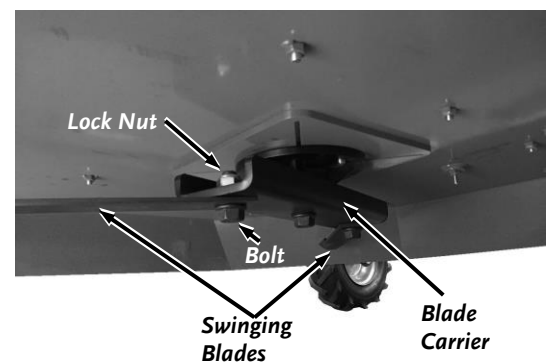

Figure 37
- Remove the Bolt and Lock Nut securing the Swinging Blade to the Blade Carrier using two 1-1/8" Wrenches and remove the Blade. (**Figure 37**).